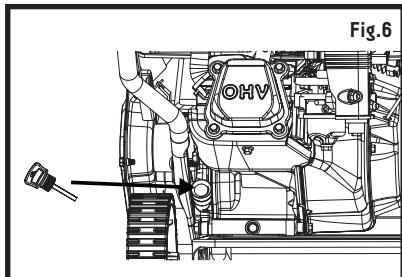

Fig. 6
As shown in Figs. 6 to 11.
1. Remove the oil filler dipstick and wipe oil from it with a clean cloth (see Fig. 6).